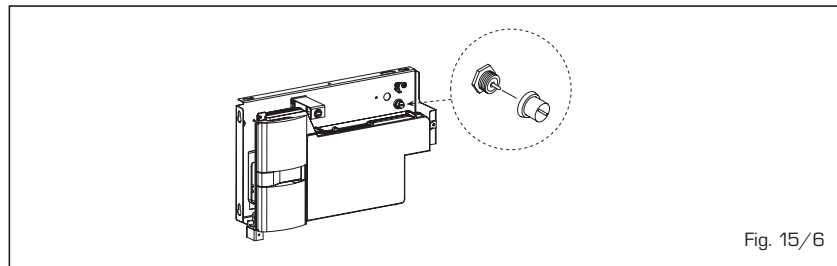

Fig. 15/6
- WATER CIRCULATION ANOMALY ALARM 09 (fig. 15/8)